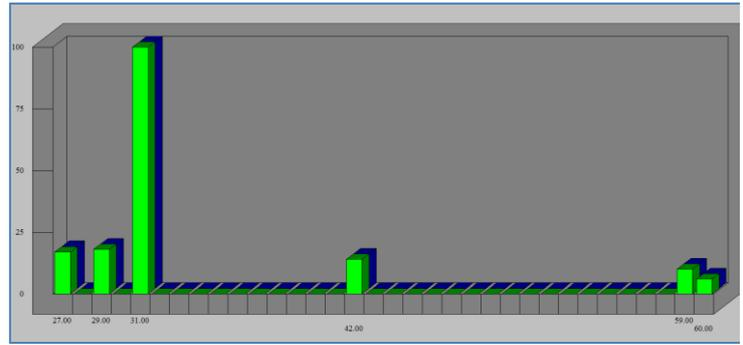
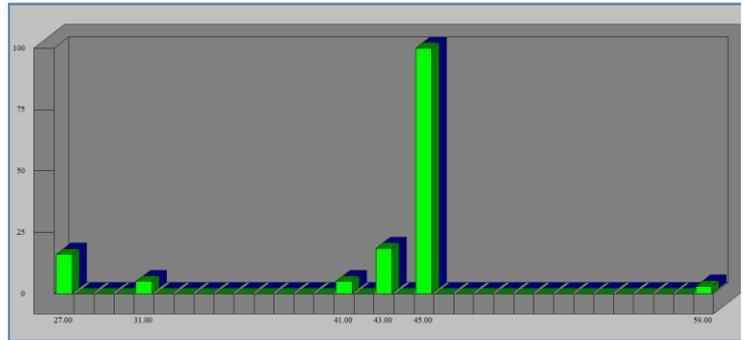

Figure 1: Fragmentation pattern for n-propanol
Figure 2: Fragmentation pattern for iso-propanol
- The fragmentation patterns of the molecules in the MS ion source are effectively 'fingerprints', simplifying the analysis of even complex mixtures. As an example, figure 1 shows the fragmentation pattern for n-propanol; figure 2 shows that of iso-propanol. Both figures are from Thermo Scientific's GasWorks process MS software package.